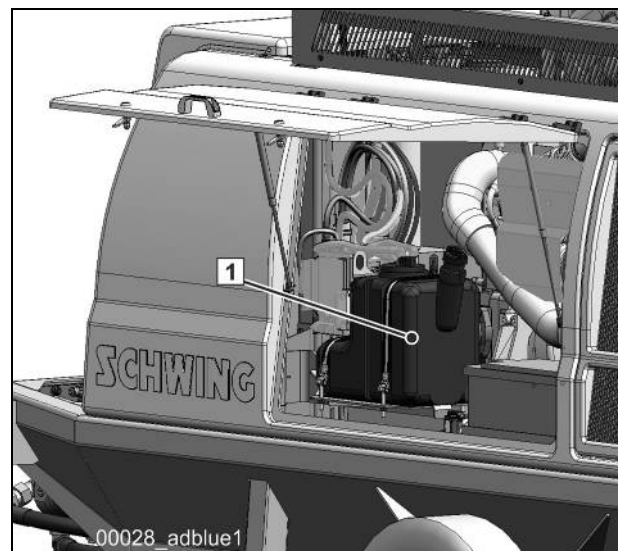

Fig.: 9
The AdBlue tank is installed on the left-hand side in the direction of travel and can be swung out (1) (Fig.: 9).
- In order to access the AdBlue tank, open the left-hand maintenance flap (Fig.: 9),